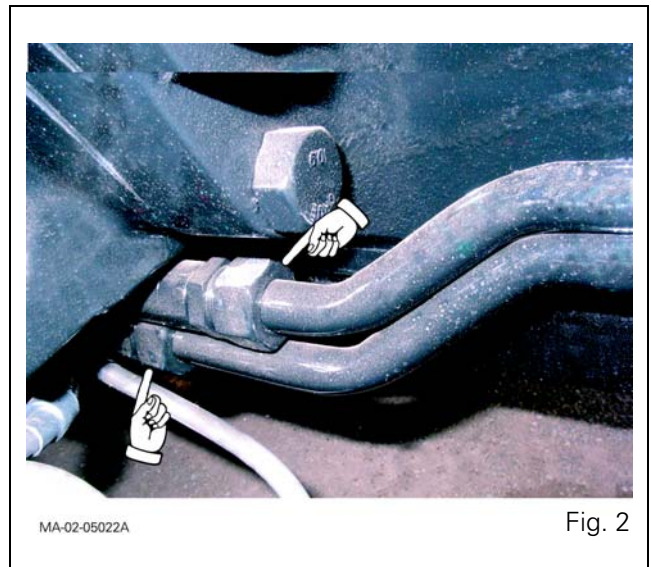

Fig. 2
- the lubricating hoses (running to and from the cooler) (Fig. 2).